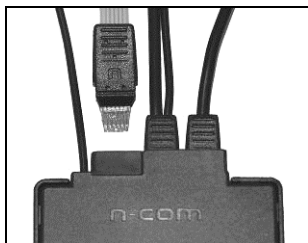

Fig. 34
- Line up the keypad flex connector to the e-box making sure that the letter “n” is pointing as shown in Fig. 34.
N.B. If the system does not work, remove the flex and repeat the previous operation, making sure that the “n” is positioned as in Fig. 34.